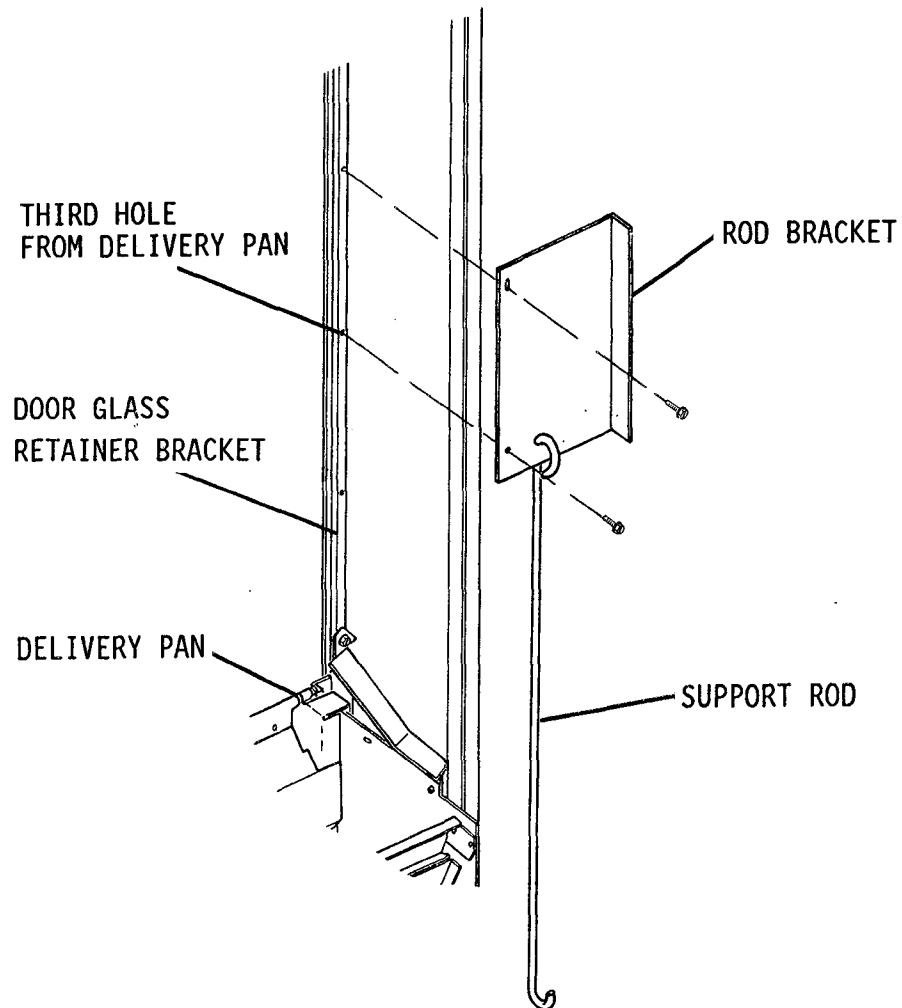

FIGURE 3. Rod Bracket Installation
2. Locate the third and fourth screws on the door glass right side retainer bracket above the delivery pan. Remove these screws. See Figure 3.
3. Mount the Gum and Mint Support Rod Bracket at this position using the two screws removed in Step 2. See Figure 3 for correct orientation of rod bracket.